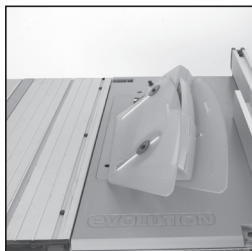

FIG. 9
- When satisfied that the blade guard works throughout the blades height adjustment range, check that the guard works equally well with the blade set to a bevel angle. (Fig. 9)